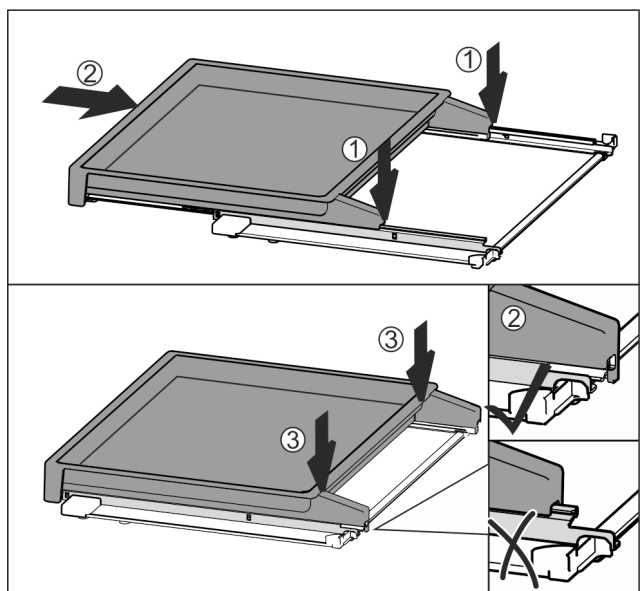

Fig. 44
- ▶ Place centrally on the rails Fig. 44 (1).
- ▶ Slide the pull-out board all the way in Fig. 44 (2).
- ▶ Press down at the back until it clicks into place Fig. 44 (3).